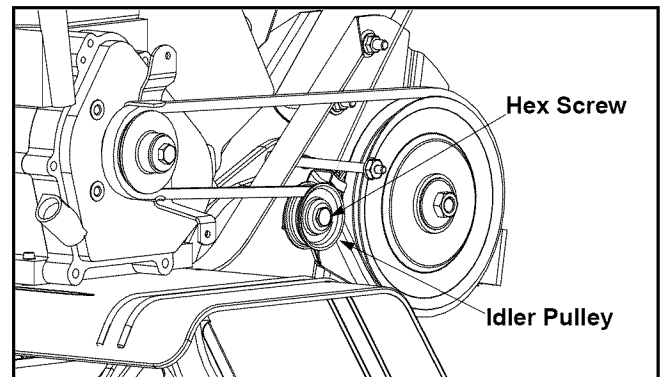

Figure 12
- Remove the hex screw and idler pulley from the idler bracket assembly. See Figure 12.